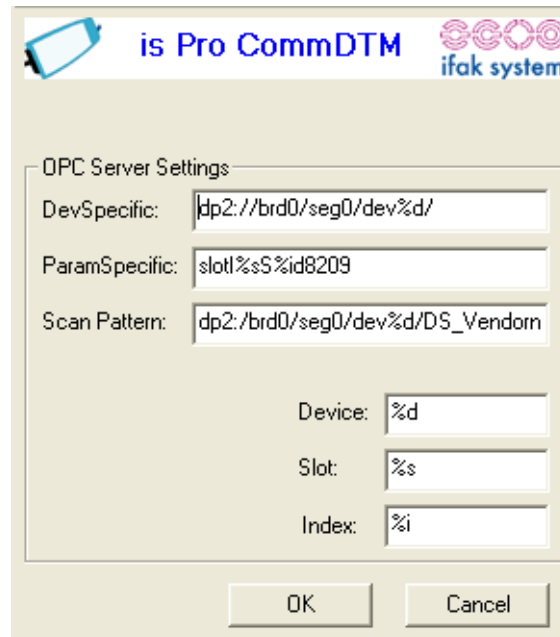

Figure 47. is Pro Comm Server Settings
11. Select Offline Parameterize in is PRO USB adapter from is Pro CommDTM. A screen similar to the one shown in Figure 47 is displayed.